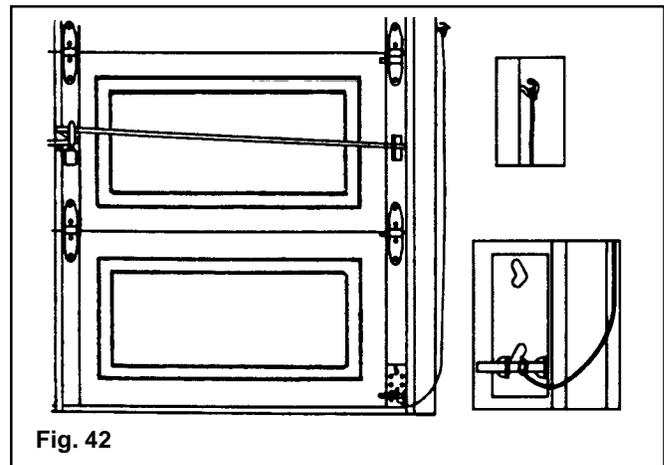

Fig. 42
**Step 11:** For manually operated doors only, drive the #6 eye screw into the jamb approximately 40 inches from the floor. Tie one end of the rope to the bottom roller shaft and the other to the eye screw. (FIG. 42)